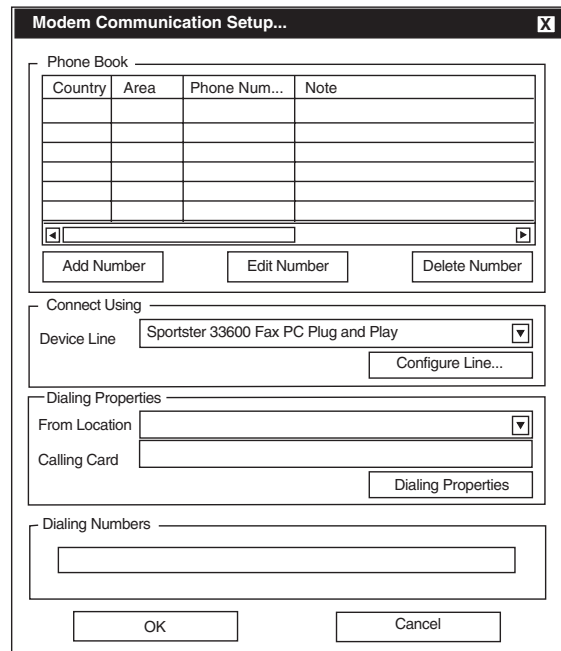

Figure 9-10 Modem Communication Setup
- a. Ensure that the correct modem is displayed, then select **Setup**, GE-2029A will display the **Modem Communication Setup** screen (Figure 9-10).